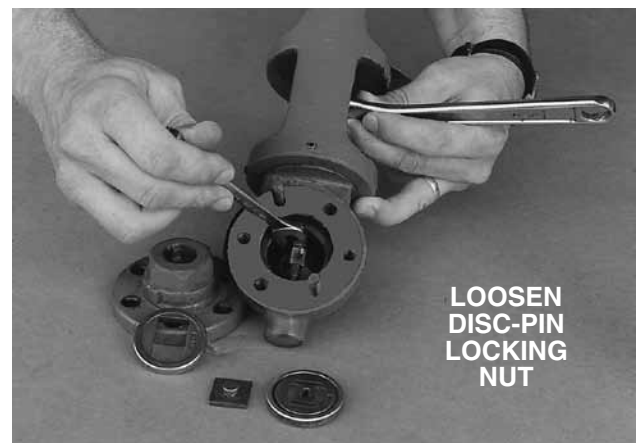

Figure 43
- Loosen the disc-pin locking nut and allow at least 10 minutes for the valve to react (see figure 43).